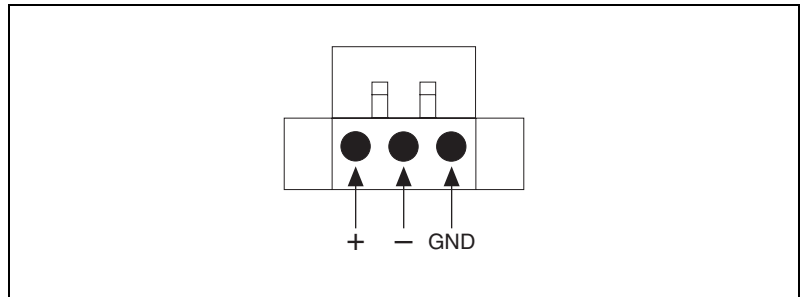

Figure 2-1. Power Connector
3. Connect the power connector to 24 VDC power lines. Be sure to connect the positive, negative, and ground lines as shown in Figure 2-1. The power lines can be from either a power adapter or in-house power source.